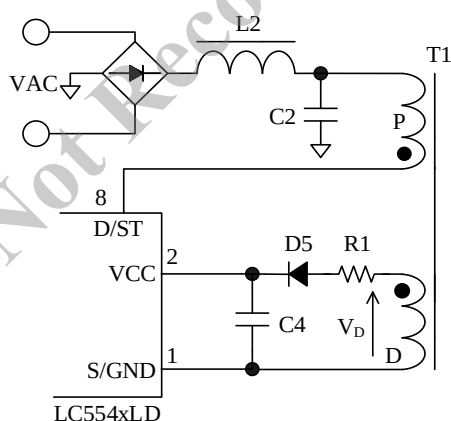

Figure 8-1. VCC Pin Peripheral Circuit
Figure 8-1 shows the VCC pin peripheral circuit. The IC has the startup circuit connected to the D/ST pin. When the D/ST pin voltage reaches the Startup Circuit Operation Voltage, $V_{\text{STARTUP}} = 21 \text{ V}$, the startup circuit starts to operate. During the startup process, the constant current, $I_{\text{CC(STARTUP)}} = -4.0 \text{ mA}$, charges C4 connected to the VCC pin. When the VCC pin voltage increases to $V_{\text{CC(ON)}} = 15.1 \text{ V}$, the IC starts to operate. After that, the startup circuit is automatically cut off to eliminate power dissipation by the startup circuit.
voltage and the circuit current, I_{CC} . When the VCC pin voltage reaches the Operation Start Voltage, $V_{CC(ON)} = 15.1 \text{ V}$, the control circuit starts to operate, then the circuit current increases. When the VCC pin voltage decreases to $V_{CC(OFF)} = 9.4 \text{ V}$, the control circuit operation is stopped by the undervoltage lockout (UVLO) circuit, and is put back to the state before startup. After the IC starts switching operation, the rectified auxiliary winding voltage is supplied to the VCC pin. The auxiliary winding voltage, V_D , is presented in Figure 8-1. In the variation range of the input and output specifications, the winding turns of the auxiliary winding, D , should be adjusted so that the VCC pin voltage falls within the range defined by Equation (2). The reference voltage across an auxiliary winding is about 20 V.